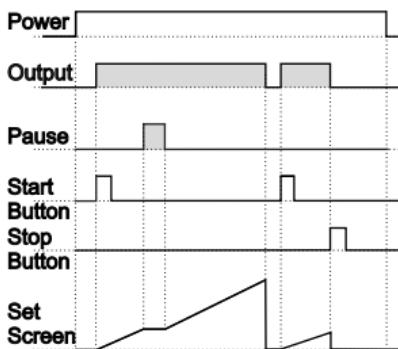

Figure 1.3
1.2.1 If Upcount **dEct** = 0 and **outF** is **o-n** the control diagram is shown in Figure 1.3